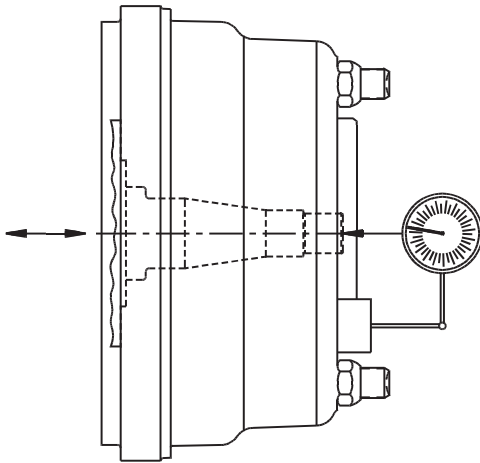

Figure 6 - Wheel End Play Measurement
4. Place the tip of the dial indicator on the center of the steering knuckle spindle. Set the dial indicator on zero. (Figure 6).